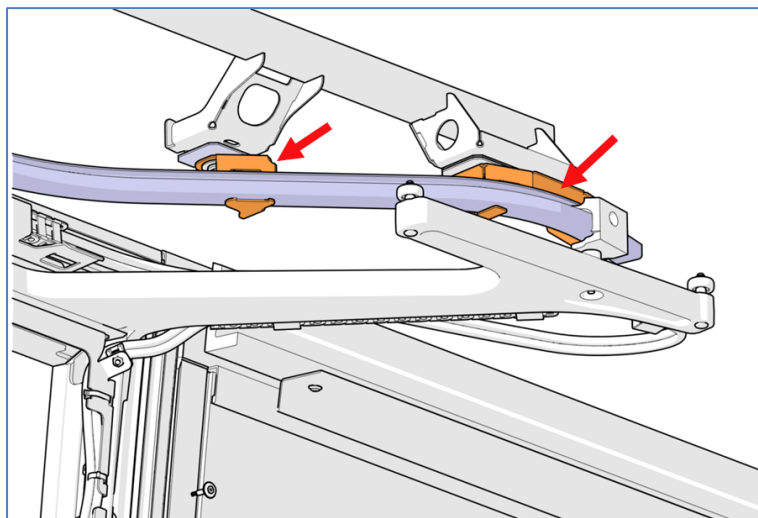

Figure 42
2. Locate the carrier rail end supports (two supports) (Figure 42).